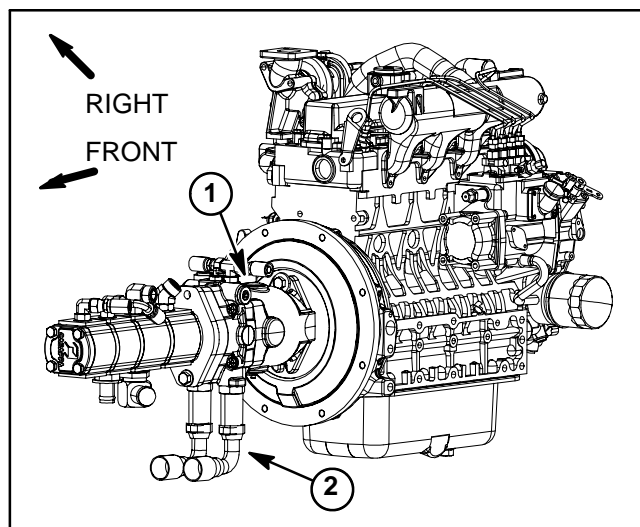

Figure 58
3. Thoroughly clean junction of hydraulic hose and **left** side elbow fitting on bottom of traction pump (Fig. 58). Disconnect hose from left side pump fitting.